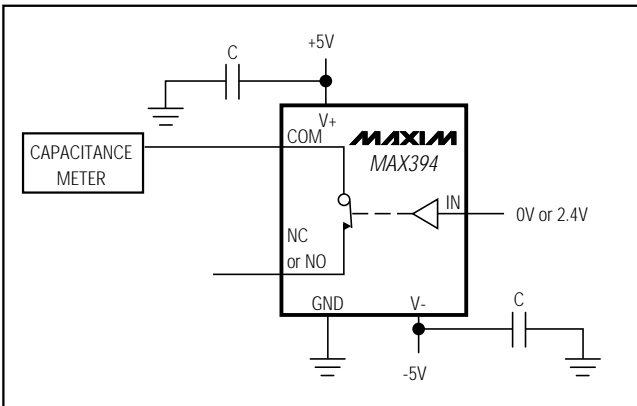

Figure 3. Channel Off Capacitance
**Note 7:** Between any two switches. See Figure 3.